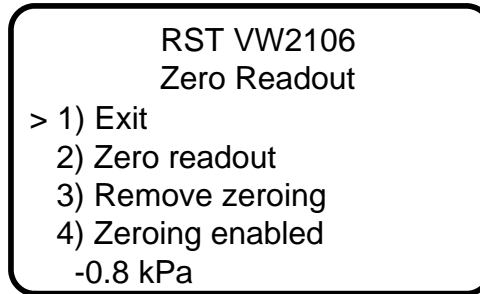

Figure 38 – Zeroing Options
- Once the zero value has been accepted, press *ESC* and the above screen will appear (Figure 38) with several options. Use the *arrow keys* to scroll and press *Enter* to select. Selection option 2 will re-zero the readout. Option 3 will remove the current zeroing value (delete it). Select option 4 and press *Enter* to toggle back and forth between “zeroing enabled” and “zeroing disabled”. This function saves the zero offset so that it can be re-applied later if desired. To exit this screen either choose *exit* or press the *ESC* button.